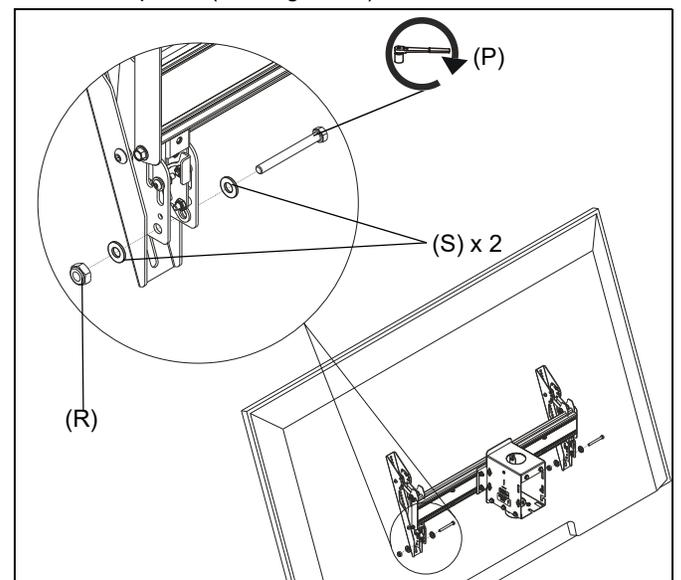

Figure 13
1. Use 5/16-18 x 2" hex head carriage bolt (P), 5/16-18 hex nut (R) and two 5/16" washers (S) to lock each interface bracket in place. (See Figure 13)